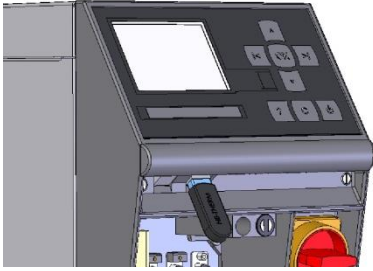

Fig. 71: Connect USB data carrier
2. Connect USB data carrier (Fig. 71).